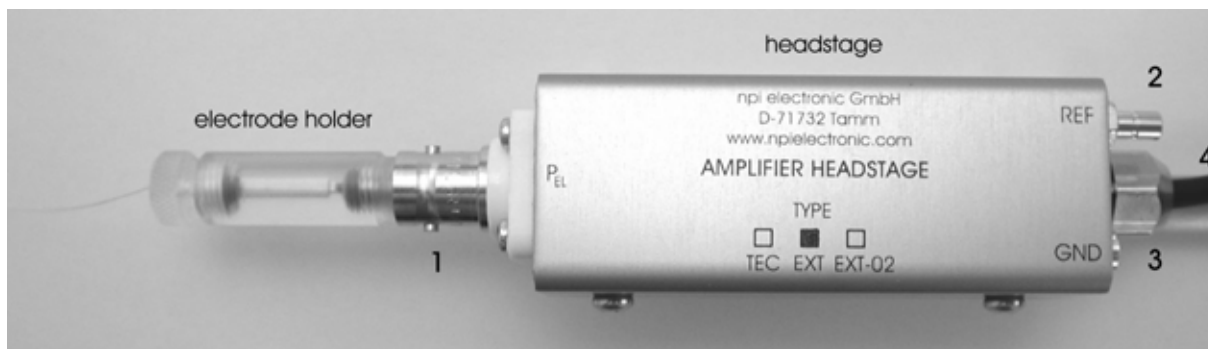

Figure 4: electrode holder (optional) and headstage of the EXT 10-2F
**Very Important:** EXT 10C headstages are always labeled “EXT” (see Figure 4) and must not be exchanged with headstages from npi electronic’s desktop EXT amplifiers, e.g. the EXT-2F which is labeled “EXT-02”!